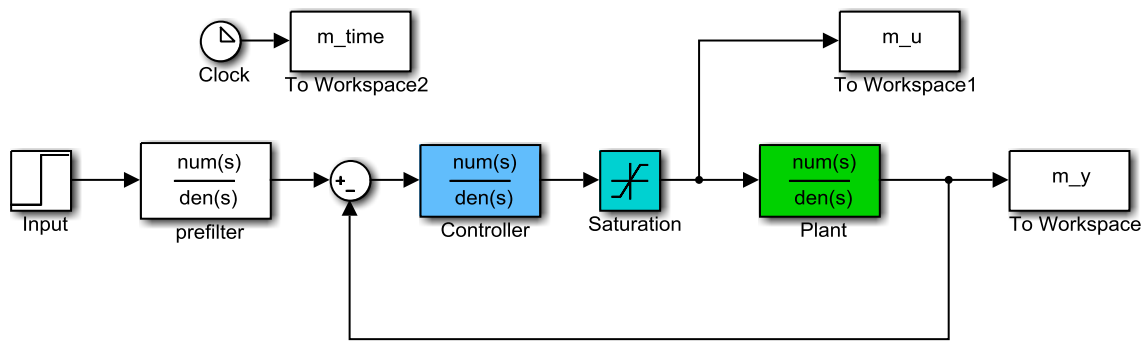

Figure 3. Simple feedback control system
9) (Matlab/Simulink) Download and uncompress the file **Model_Matching.rar** from the class website. The file **closedloop.slx** is a Simulink file the for a simple closed loop system, as shown below in in Figure 3.